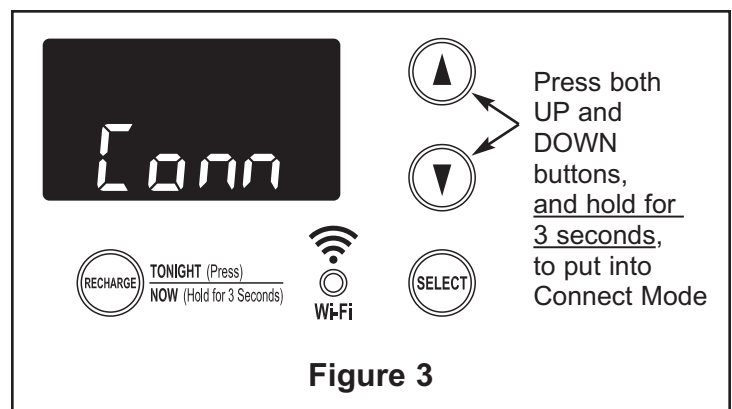

Figure 3
12. Place the controller into Connect Mode, as shown in Figure 3. “Conn” appears in the display.